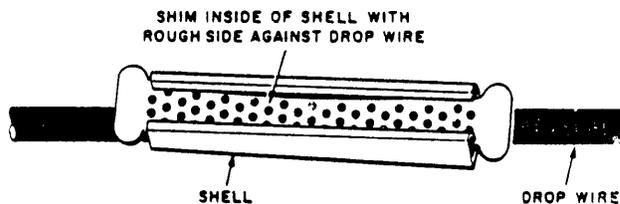

Fig. 11-Shim in Position in Shell
- 4.04 Place the shell of the clamp on the wire with the small end pointing toward the hook. With the wire lying flat in the shell, insert the shim with its rough side against the wire as shown in Fig. 11.